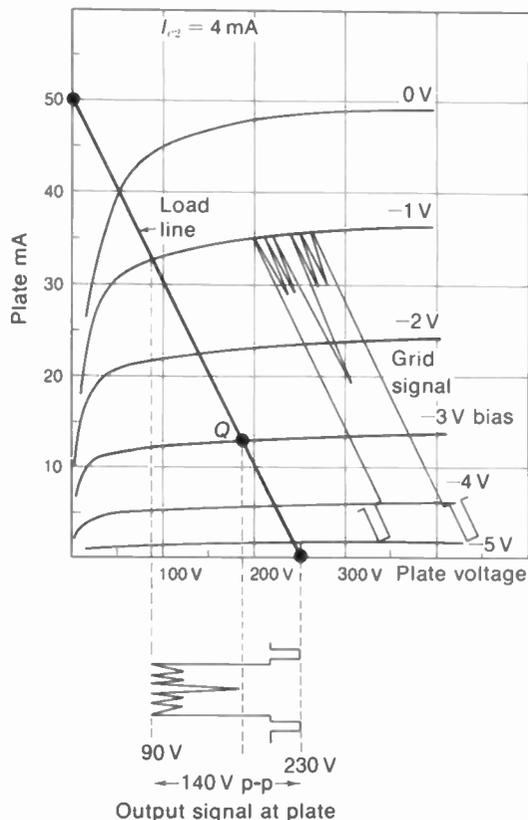

FIGURE 13-6 LOAD-LINE CALCULATIONS FOR VIDEO AMPLIFIER CIRCUIT IN FIG. 13-5. PLATE-CHARACTERISTIC CURVES FOR 6AW8-A PENTODE SECTION.
**Load line.** The amplitude variations of the video signal can be analyzed by a load line for this amplifier, as shown in Fig. 13-6. One end of the load line is at  $E_{bb}$  of 250 V, equal to B+. This is the plate voltage when plate current is zero. The other end is at 50 mA, which is the plate current equal to  $250 \text{ V} / 5,000 \Omega$ . When the plate voltage is zero, all the B+ voltage is dropped across the plate load  $R_L$ .